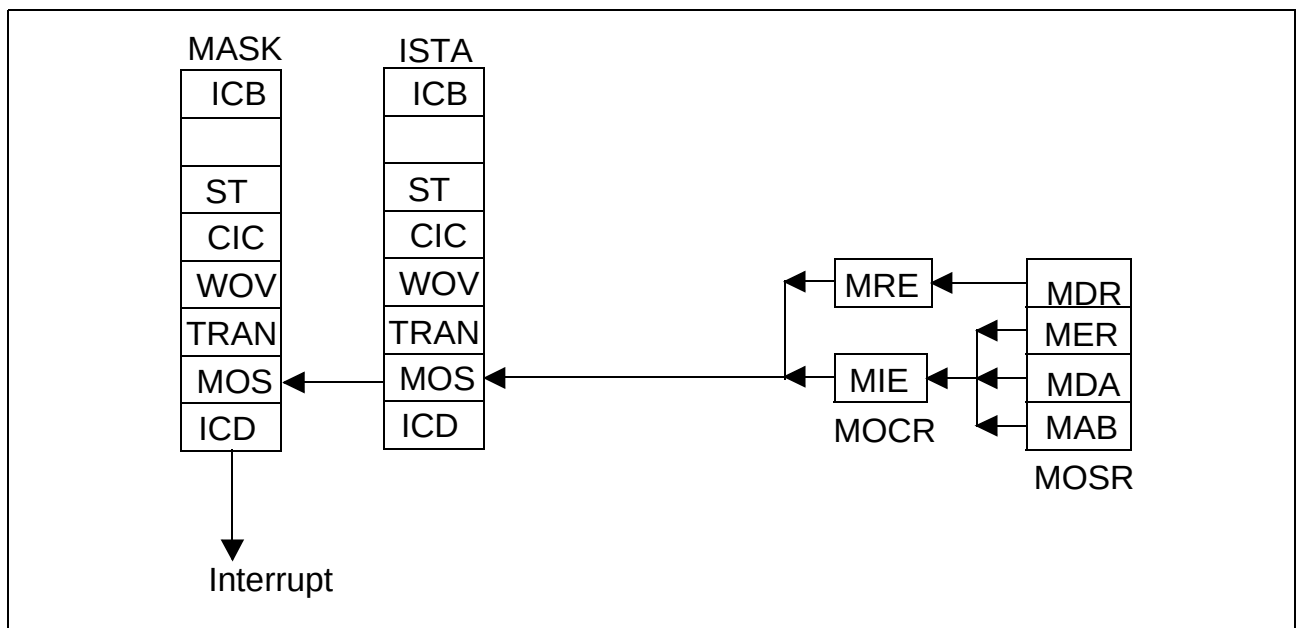

**Figure 63** MONITOR Interrupt Structure
**Figure 63** shows the MONITOR interrupt structure of the ISAC-SX. The MONITOR Data Receive interrupt status **MDR** has two enable bits, MONITOR Receive interrupt Enable (**MRE**) and MR bit Control (**MRC**). The MONITOR channel End of Reception **MER**, MONITOR channel Data Acknowledged **MDA** and MONITOR channel Data Abort **MAB** interrupt status bits have a common enable bit MONITOR Interrupt Enable **MIE**.
**MRE** prevents the occurrence of **MDR** status, including when the first byte of a packet is received. When **MRE** is active (1) but **MRC** is inactive, the **MDR** interrupt status is generated only for the first byte of a receive packet. When both **MRE** and **MRC** are active, **MDR** is always generated and all received MONITOR bytes - marked by a 1-to-0 transition in MX bit - are stored. (Additionally, an active **MRC** enables the control of the MR handshake bit according to the MONITOR channel protocol.)